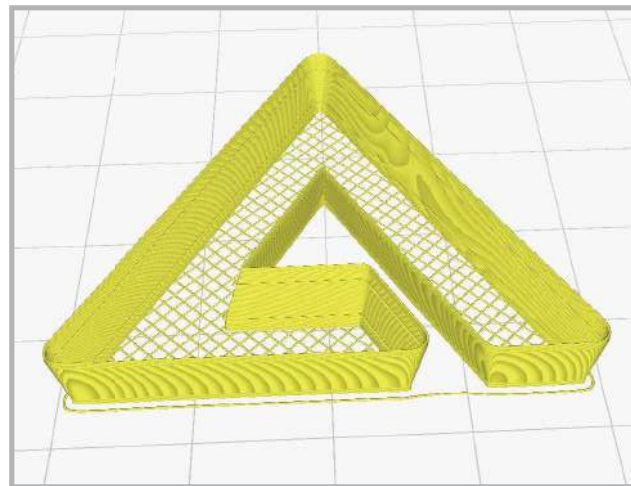

Figure3-19
- Since the corners of some characters cannot be cut (as shown in Figure 3-19), check the forced merge when converting the path to eliminate them.